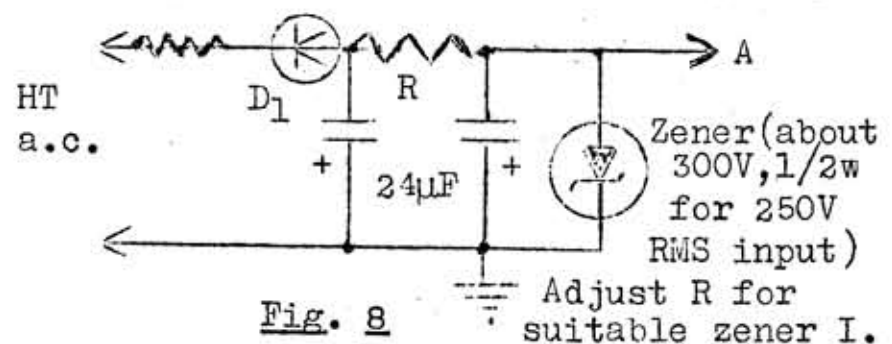

Fig. 8
- 6) Provided the mains line voltage is constant, the supply is regulated, due to the constant voltage firing characteristic of the neon. The supply can be regulated with respect to both mains voltage and output current variations, by regulating the high voltage supply associated with D_1 , thus: (Fig. 8)